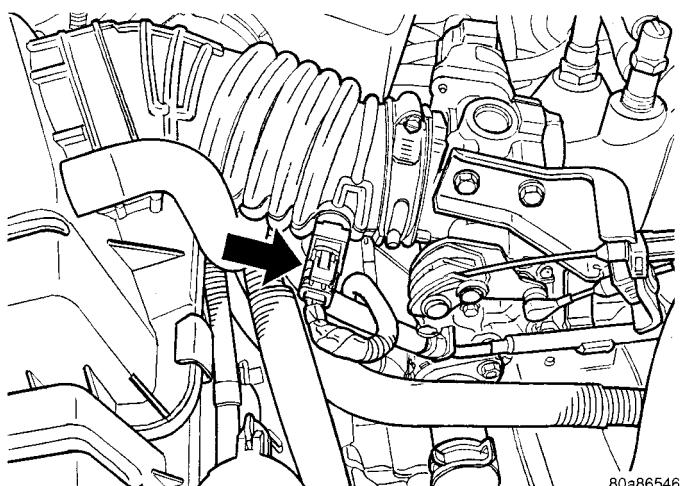

Fig. 12 IAT Sensor 2.4L
- (1) Disconnect the negative battery cable.
- (2) Disconnect the inlet air temperature sensor (Fig. 12).
- (1) Install air box into vehicle and onto the locating pin.
- (2) Install bolt to hold air box to the upper radiator cross member.
- (3) Install the inlet hose to the throttle body.
- (4) Connect the inlet air temperature sensor (Fig. 12).
- (5) Connect the negative battery cable.